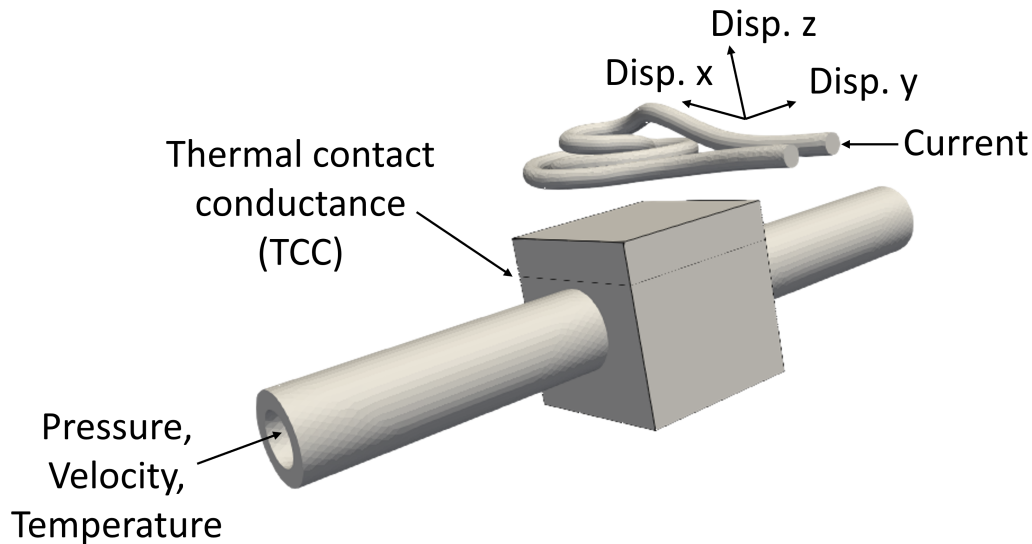

Fig. 6.12: Schematic of the HIVE simulation setup, showing some of the variable parameters.
*CoilDisplacement* dictates the x, y and z components of the displacement of the coil with respect to the sample. The z-component indicates the gap between the upper surface of the sample and the coil and must be positive. The x and y components indicate the coil’s offset about the centre of the sample, see Fig. 6.12.
*Frequency* is used by **ERMES** to produce a range of EM results, such as the Electric field (E), the Current density (J) and Joule heating. These results are stored in the sub-directory *PreAster* within the simulation directory.